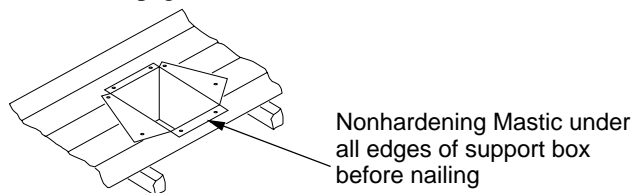

Figure 27 - Installed Cathedral Ceiling Support Box
- Using tin snips, cut the support box from the top corners down to the roofline and fold the resulting flaps over the roof sheathing (see Figure 27). Apply a bead of non-hardening mastic around the top edges of the support box to make a seal between the box and the roof. Nail in place with roofing nails. Remove any combustible material that might be inside of the support box.